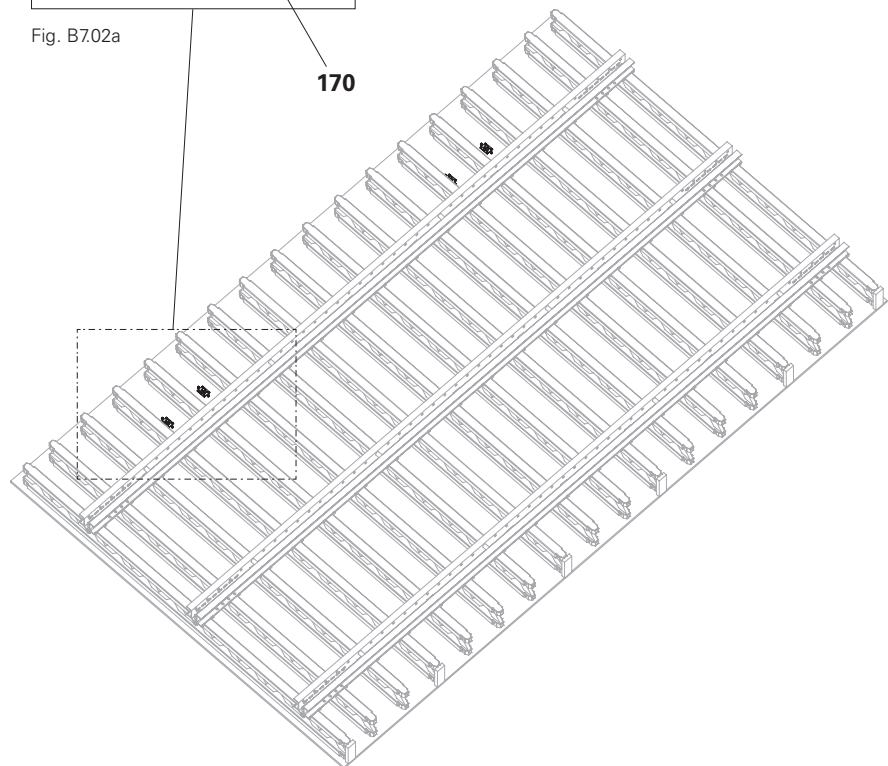

Fig. B.7.02
7. Turn the formwork unit and place it on the formlining. Support the formwork unit so that the Leading Tie Plates (176) are freely accessible.
8. For precise assembly of the Anchor Positioning Plate M30 (173), hold the Climbing Cone-2 M30/DW 20 (170) against the Leading Tie Plate ACS 399 (176).
9. Screw down the Climbing Cone-2 M30/DW 20 (170) from the opposite side with the Positioning Screw M30 (175) and the Anchor Positioning Plate M30 (173).
10. Align the Anchor Positioning Plate M30 (173) and screw it to the formlining with a 6 x 20 wood screw (174).
11. Remove Climbing Cone-2 M30/DW 20 (170) and Positioning Screw M30 (175).
- (Fig. B.7.02 + B.7.02a)